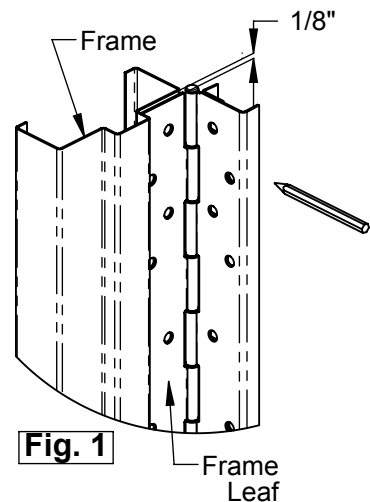

Fig. 1
1. Place the hinge frame leaf on the frame. Position the top of the hinge 1/8" maximum below the header as shown (**Fig.1**) Place the hinge firmly against the face of the frame.